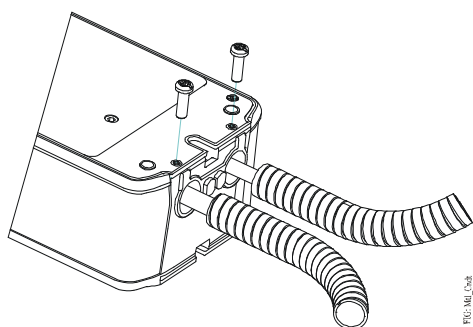

Figure 21: Adding flexible metal conduit
2. Push the conduit into the holes in the actuator and secure it with the supplied 10-32 x 9/16 in. screws, as illustrated in Figure 21. The product label marks the position of holes for the screws. Drive the screws through the product label in the marked positions. Drive the screwhead flush with the plate to secure the conduit.